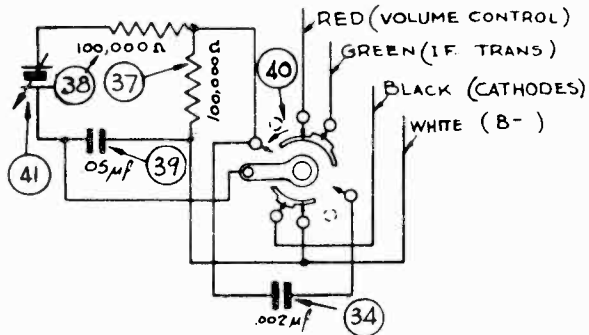

FIG. 1. PHONOGRAPH WIRING AS USED ON MODEL 40-502. CODE 121
**NOTE A — DIAL CALIBRATION:** In order to adjust the receiver correctly the dial must be aligned to track properly with the tuning condenser. To adjust the dial, proceed as follows: With the tuning condenser closed (maximum capacity), set the dial pointer on the extreme left index line at the low frequency end of the broadcast scale. The arrangement of the drive cable and dial pointer is shown in Fig. 1.